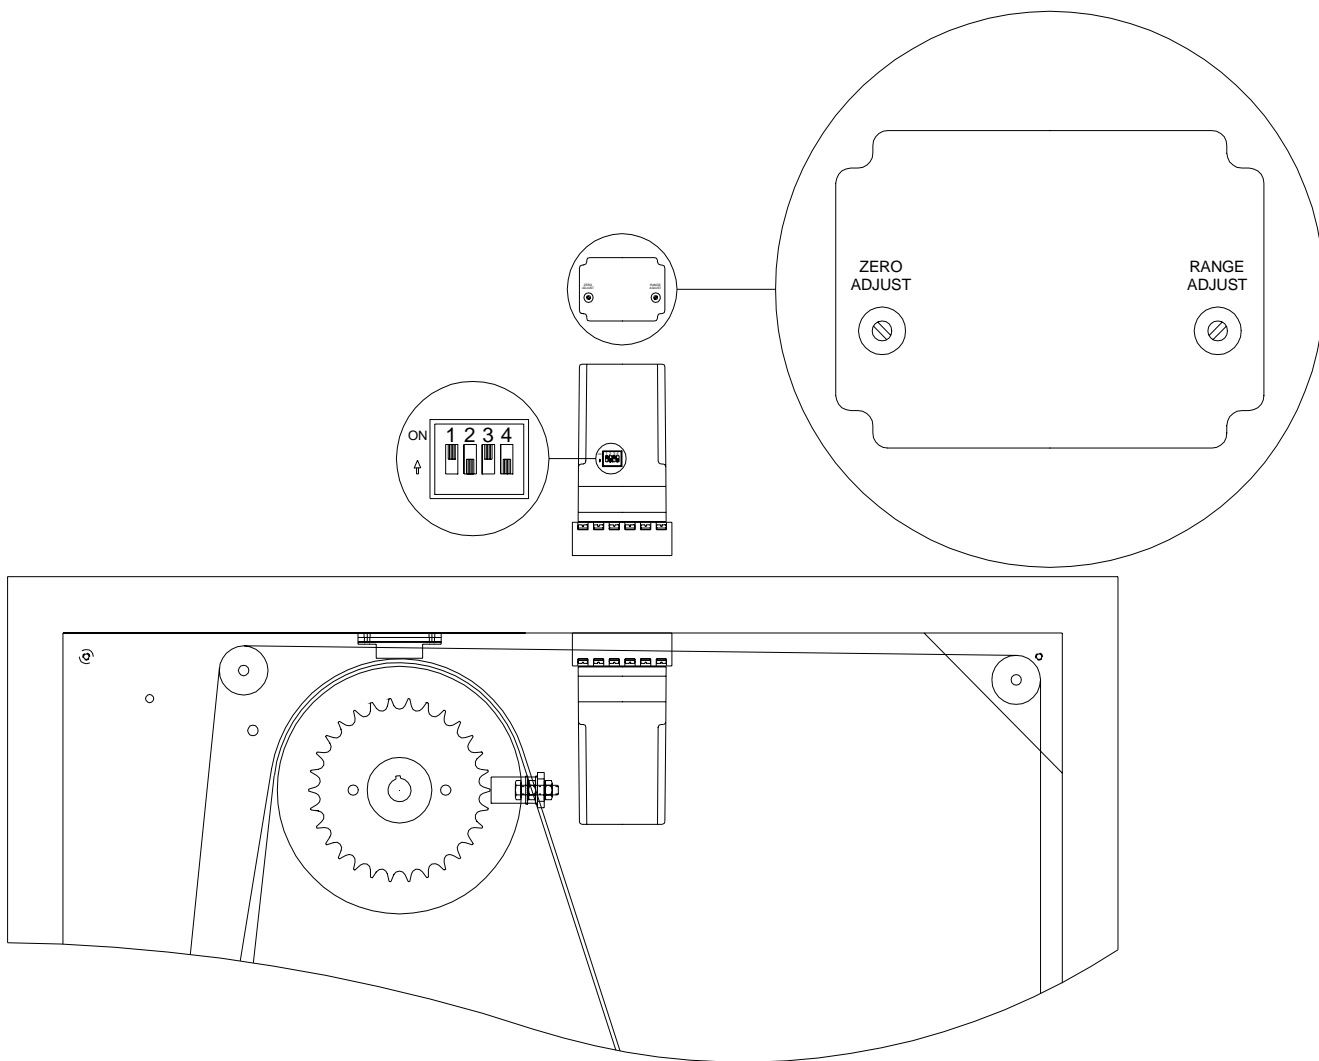

Figure 7-7-d. Adjustments on Frequency/Voltage Converter
- If the two stopping points are overlapping, reduce the setting of the LOW SPEED potentiometer R6 on the Relay Interface Board shown in Figure 7.7.c.